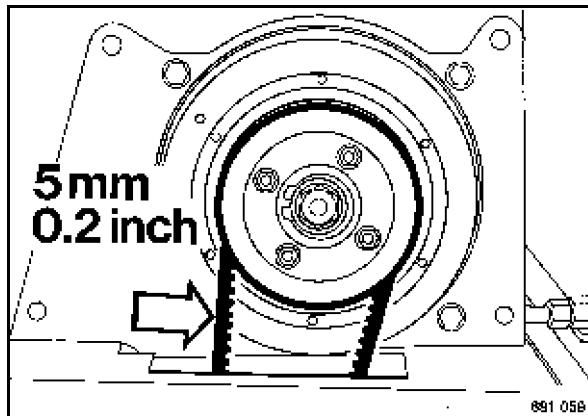

Fig. 48
- Check the condition and tension of the V-belt (Fig. 48), replace the V-belt if damaged.